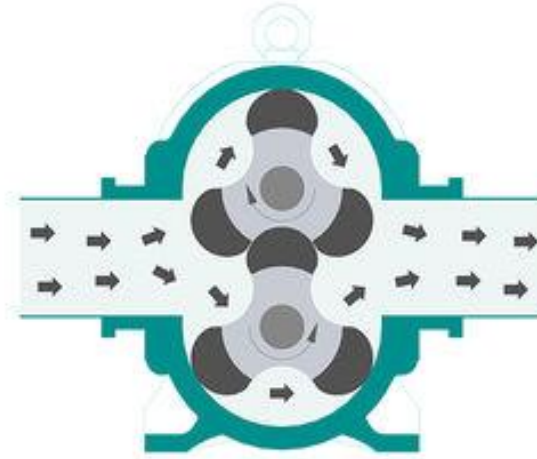

Fig.3.2 - Layout of general hydraulic system
- ▶ Lobe pumps work on a similar principle of working like that of external gear pumps. However, in Lobe pumps, the lobes do not make any contact like an external gear pump (see Figure 3.2).